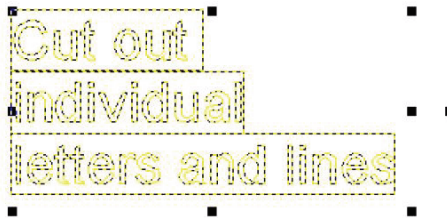

Figure 12-2. Cut Out Text: Weeding Set to By Line
- On the **Draw Attributes** toolbar, click . A cut outline displays around the individual text characters and lines (Figure 12-2).